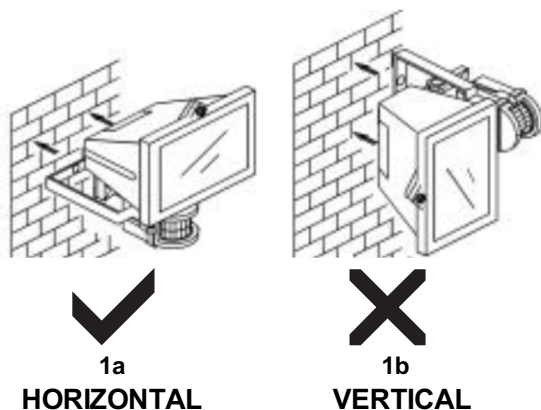

Figure 1a & 1b
- The unit must be installed in the horizontal position (Figure 1a), not vertically (Figure 1b).